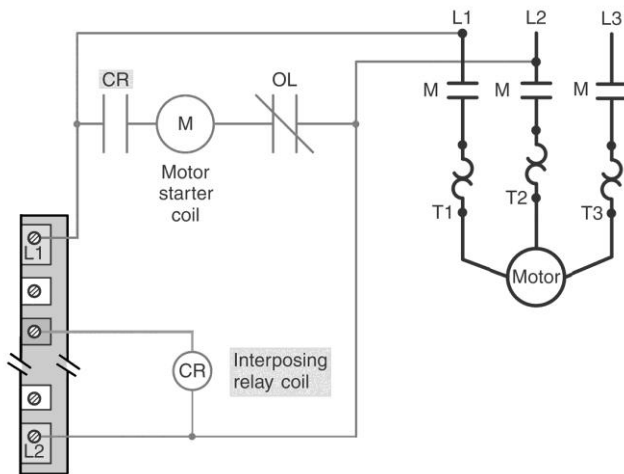

Figure 2-6 Schematic diagram for question 27.
27. The schematic diagram of Figure 2-6 is an example of how a PLC output module is connected to